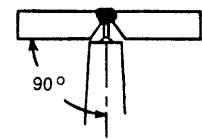

Figure 2.5
- The electrode should be positioned at a 90° work angle and a 10° to 15° drag angle to perform the weld. (See Figures 2.5 and 2.6.)